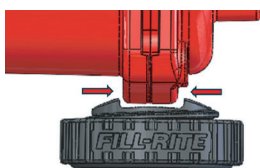

Figure 4
- D. Slide the assembled TankDefender under the pump switch plate and align the notches on the jack post with the switch plate as shown in Figure 4.